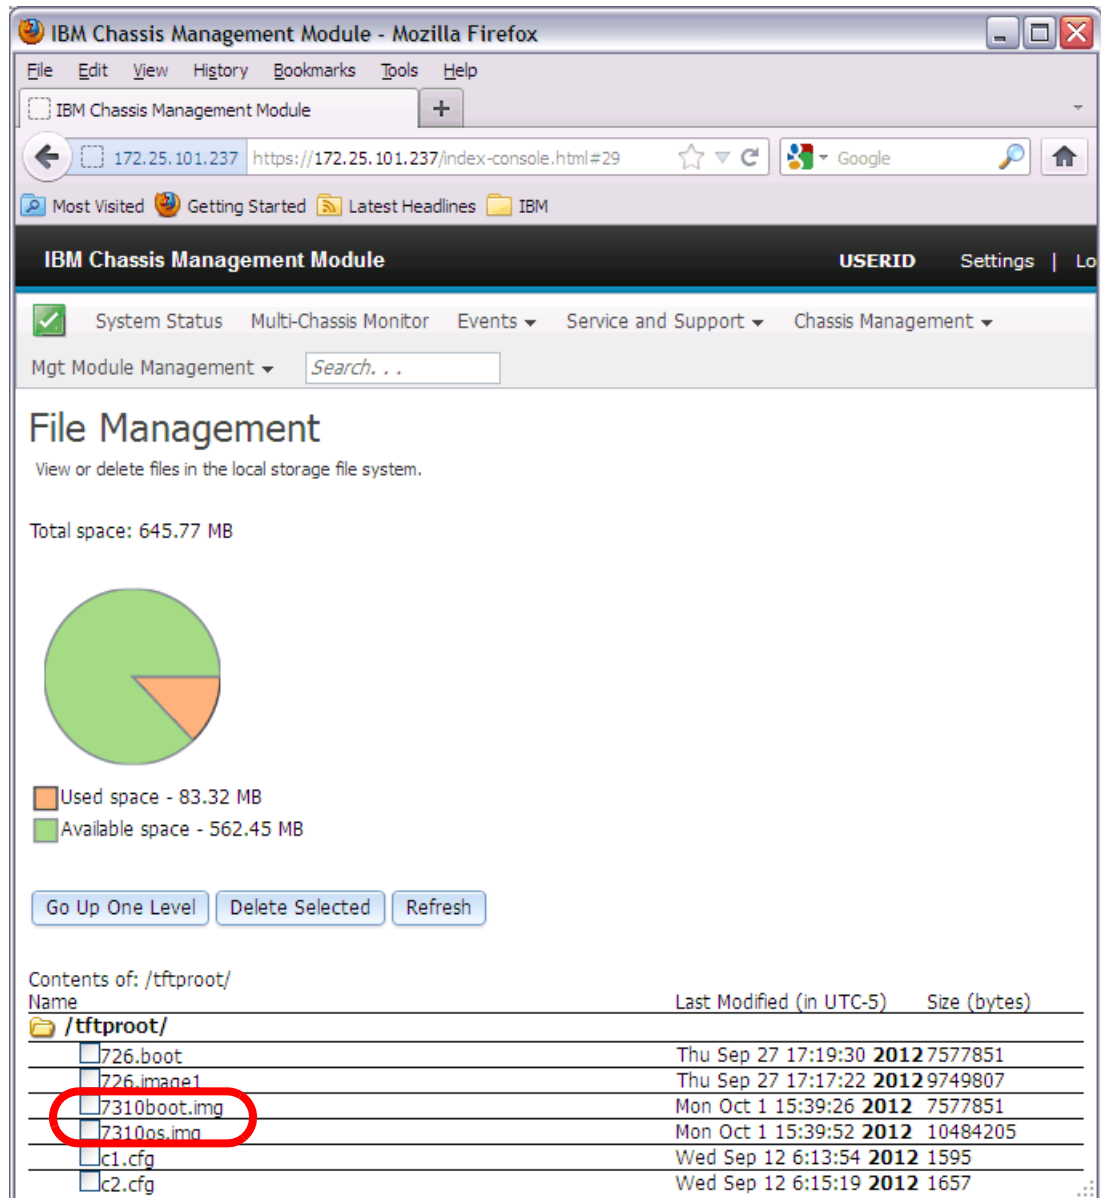

Figure 8-12 Firmware v7.3.1.0 image files on the CMM TFTP server
2. Next, we put the two files onto an FTP or SFTP server. In our example, we use the CMM built-in TFTP server. Figure 8-12 on page 209 shows the two files on the CMM TFTP server.